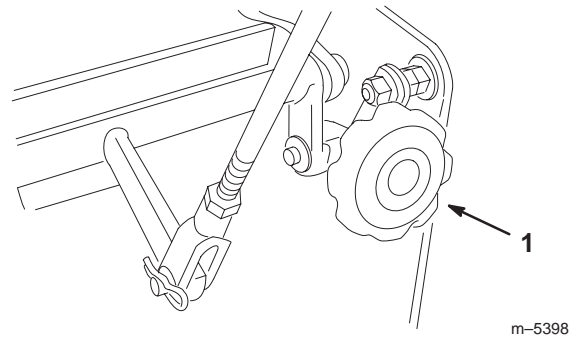

Figure 55
4. If the unit tracks to one side or the other, turn the quick track knob. Turn the knob right to steer right and turn the knob left to steer left (Fig. 55).